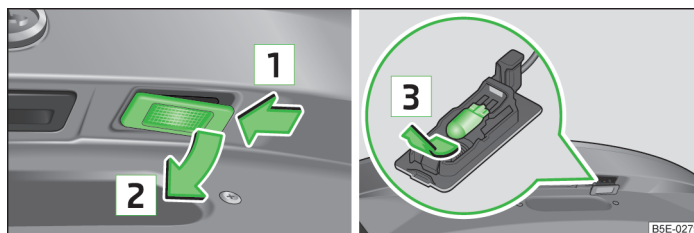

Fig. 228 Remove the number plate light/replace the bulb
- Push in the lamp in the direction of the arrow [1] » Fig. 228.